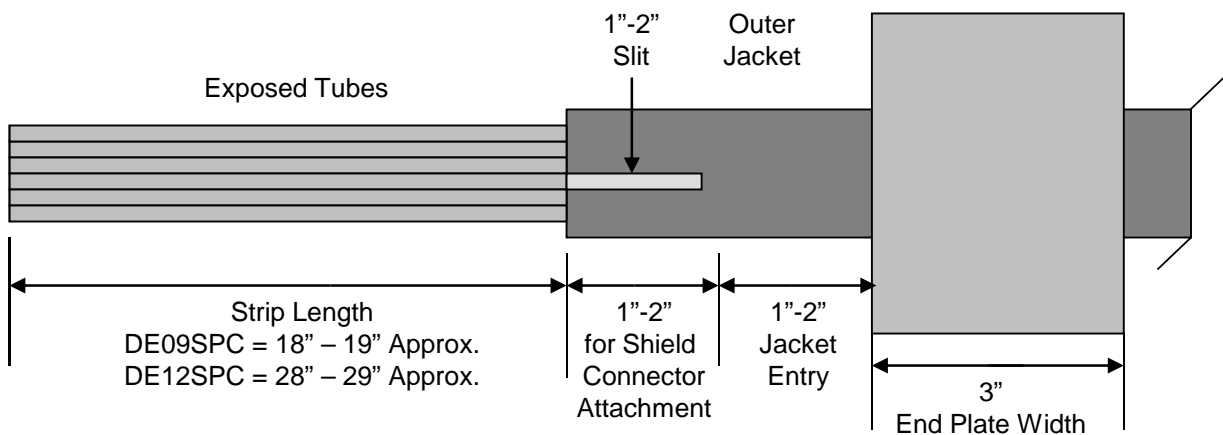
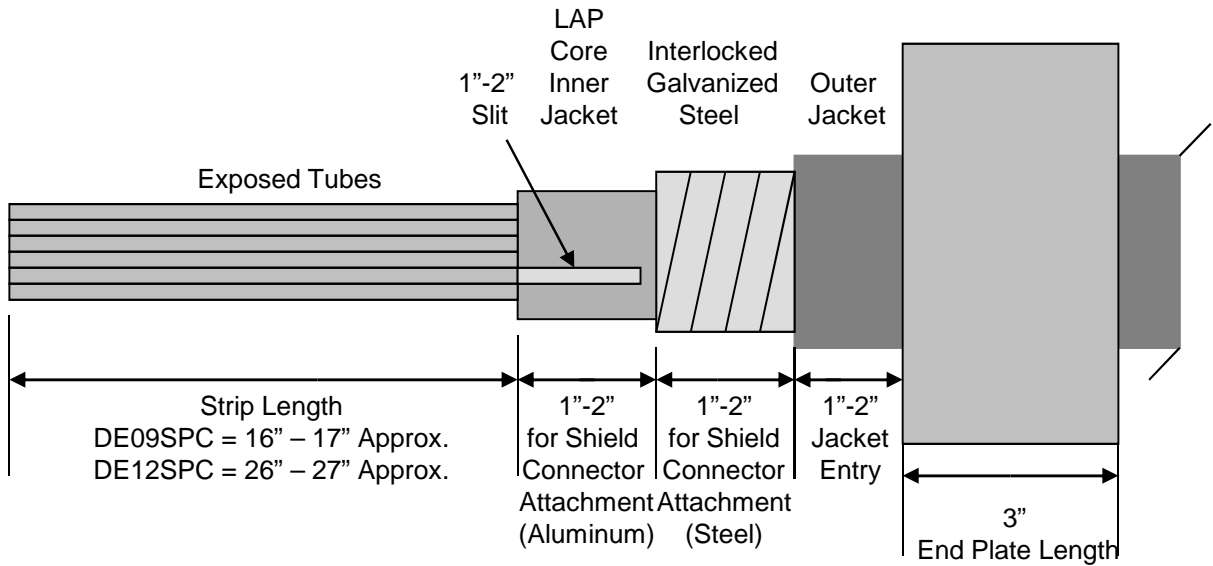

Figure 4
Figure 8
6.6.2 If installing metallic tube cables, see **Fig. 4 through Fig. 8**. Allow for about 1"-2" of outer jacket beyond the End Plate inside the Splice Case and mark jacket. Also allow additional jacketing material for attachment of Grounding & Bonding hardware. Mark inner and outer jackets accordingly. Also refer to